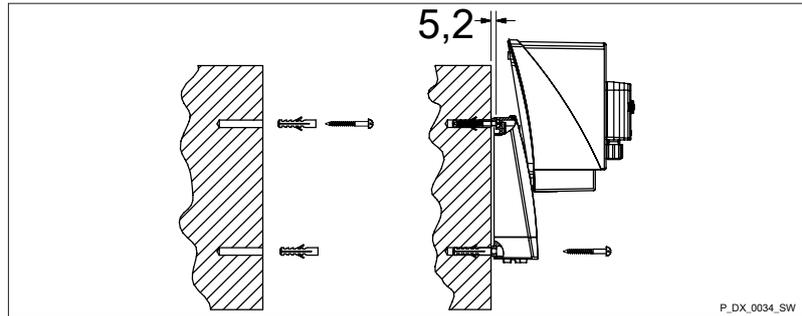

Fig. 6: Wall-mounted, parked position - dimensions in mm (not true to scale).
2. ➤ Drill the  $\varnothing$  8 mm holes and position the rawplugs supplied - see Fig. 6.